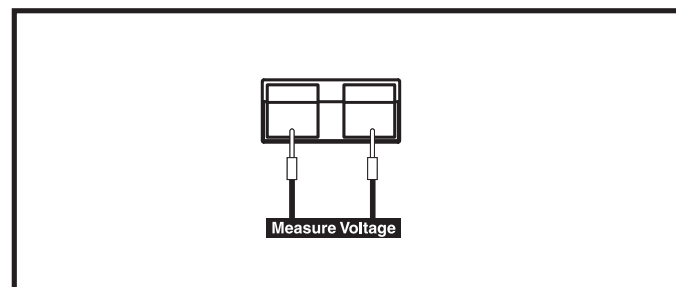
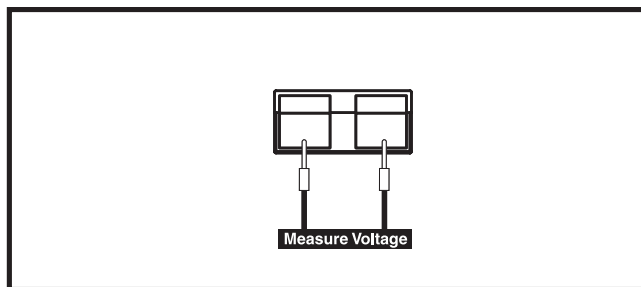
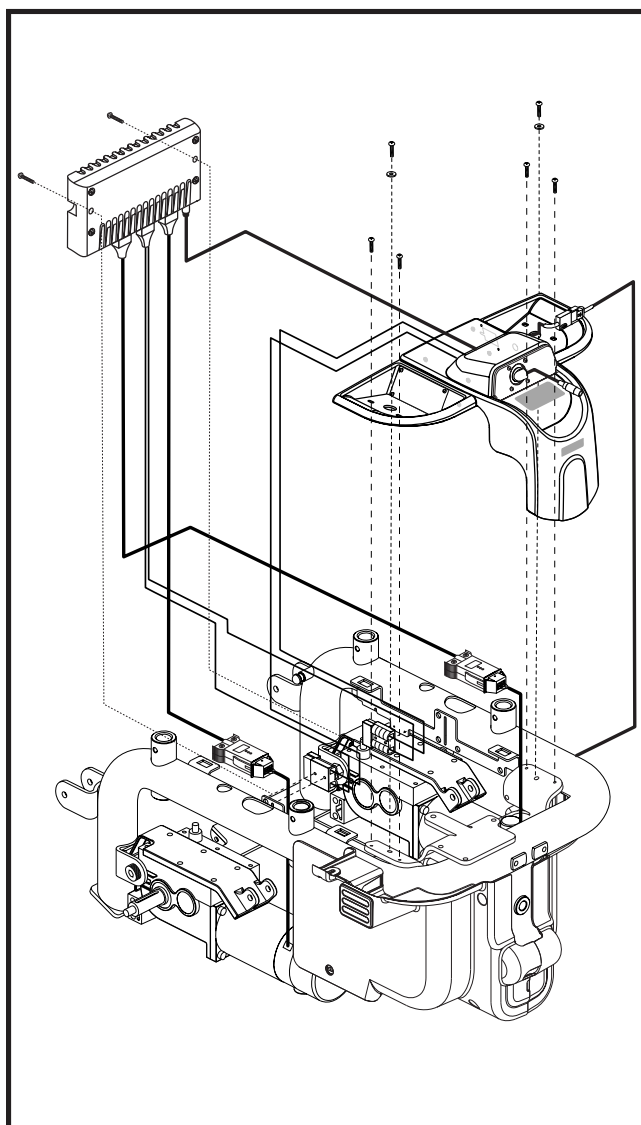
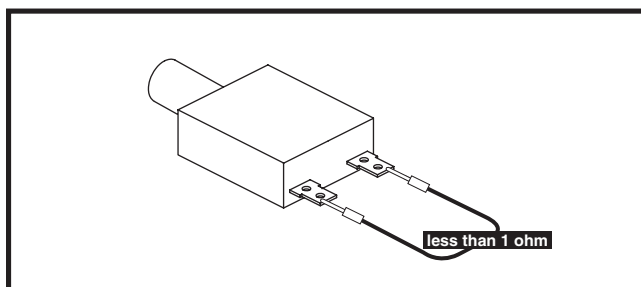

Figure 4. Connector 11a
Figure 5. Connector 10a
Figure 6. Electronics Tray Removal/Assembly
Figure 7. Circuit Breaker
7. Measure voltage across pin 1 and pin 2 of connector 11a. **See diagram 2 and figure 4.**
- If your multimeter indicates a different voltage (by at least 0.2VDC), then replace the rear battery harness (11) and retest the system.
9. Measure voltage across pin 1 and pin 2 of connector 10a. **See figure 5.**
- If your multimeter indicates a different voltage (by at least 0.2VDC), then replace the front battery harness (10) and retest the system.
10. Unfasten the electronics tray from the frame. See figure 6.
11. Measure resistance across the two terminals on the circuit breaker (5f). See diagram 2 and figure 7.
- If your multimeter indicates less than 1 ohm, then replace the power interface harness (5) and retest the system.
12. Unfasten the electronics tray from the frame. **See figure 6.**
13. Unplug connector 5a from the power module (4). **See diagram 2.**
17. Measure voltage across pin 1 and pin 2 of connector 11a. See diagram 2 and figure 4.
19. Measure voltage across pin 1 and pin 2 of connector 10a. See diagram 2 and figure 5.
- If your multimeter indicates the same voltage from step 18, then replace the power interface harness (5) and retest the system.
20. Unplug connector 3c from the power module (4). See diagram 2.
21. Plug connector 5a back into the power module (4). See diagram 2.
23. Plug connector 2b into the power module (4) where connector 3c was just unplugged.
- If the power comes on, then replace the charger/joystick interface harness (3) and retest the system.
25. Unplug connector 2b from the power module (4).